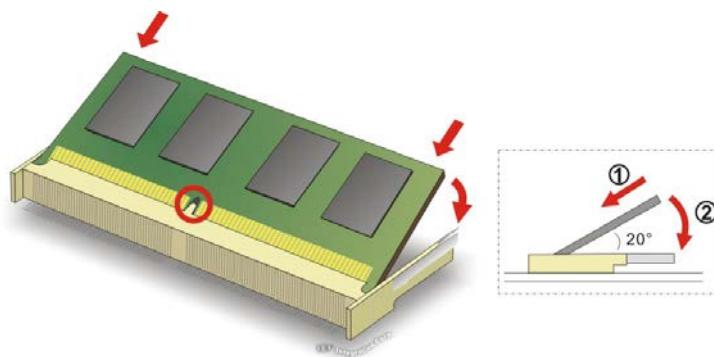

Figure 5-2: SO-DIMM Installation
Step 7: Install the new DDR4 memory module by pushing it into the socket at a 20° angle (**Figure 5-2**).
Step 8: Gently push the memory module downwards and the arms clip into place (**Figure 5-2**).